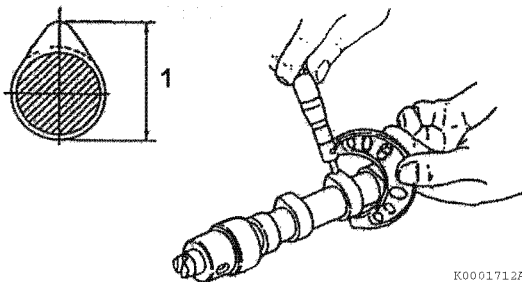

Figure 6-78
3. Measure the height of each lobe (Figure 6-78, (1)). Record the measurements. See Camshaft on page 6-6 for specifications.